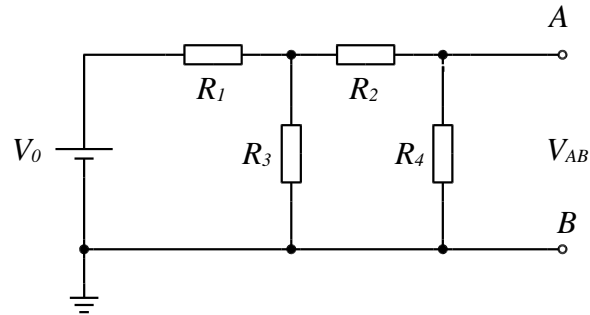

Figure 10 The circuit diagram for problem 1.
1. You build the circuit shown in Figure 10 below in lab. You supply an input voltage  $V_0$  to the circuit and look at the output voltage and current between the terminals  $A$  and  $B$ . In building your circuit, you have carefully chosen your resistors such that  $R_1$ ,  $R_2$  and  $R_4$  all have the same resistance,  $R$ , while  $R_3$  has twice this resistance ( $2R$ ). (a) In terms of input voltage,  $V_0$ , and the characteristic resistance,  $R$ , what is the output voltage of our circuit,  $V_{AB}$ ? (b) If you connect an ammeter in series with resistor  $R_4$ , what does the ammeter read (value and units)? (c) If you connect an ammeter in parallel with resistor  $R_4$ , what does the ammeter read? (d) Sketch the Thévenin equivalent circuit as seen looking into  $A$ – $B$  for your circuit. In terms of  $V_0$  and  $R$ , what are  $V_{th}$  and  $R_{th}$ ?